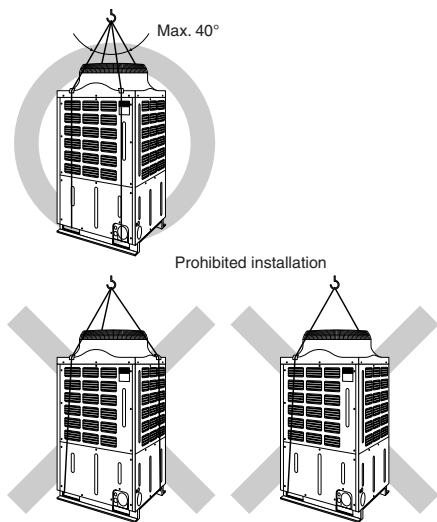

Fig. 3-3
3.3. Precautions when lifting the unit (Fig. 3-3)